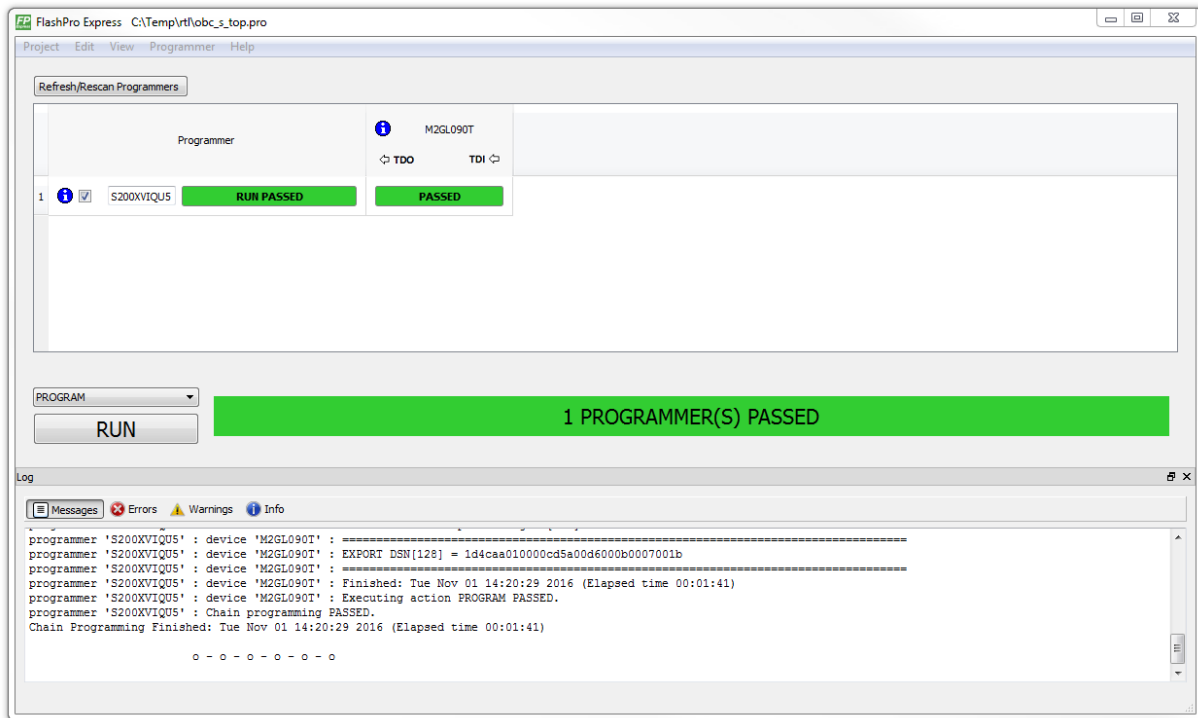

Figure 13-3 - View of FlashPro Express after program passed.
6. The FPGA should now be loaded with the new firmware, which might take a few minutes. Once it is finalized the second last message should be “Chain programming PASSED”, see Figure 13-3.